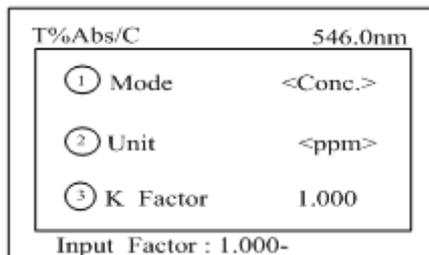
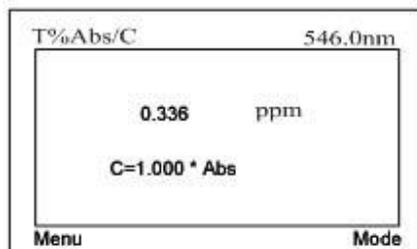

Fig 16
Fig 17
- 2.1. Move the reverse display stripe to line 3 or press **【3】** in Fig 13 to select the K Factor.(Fig 16) , Input known K factor of concentration, press the **【ENTER】** to confirm, press **【F2】** to return to test screen. Push the sample cuvette in the light path and take the readings (Fig. 17).